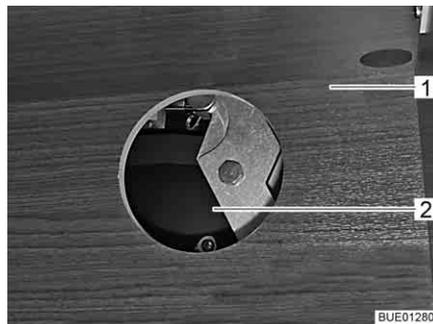

Fig. 102 Access to drive
- Depending on the model, open the flap of the wall-mounted cupboard (Fig. 102,1) and remove the cover from the access port (Fig. 102,2).